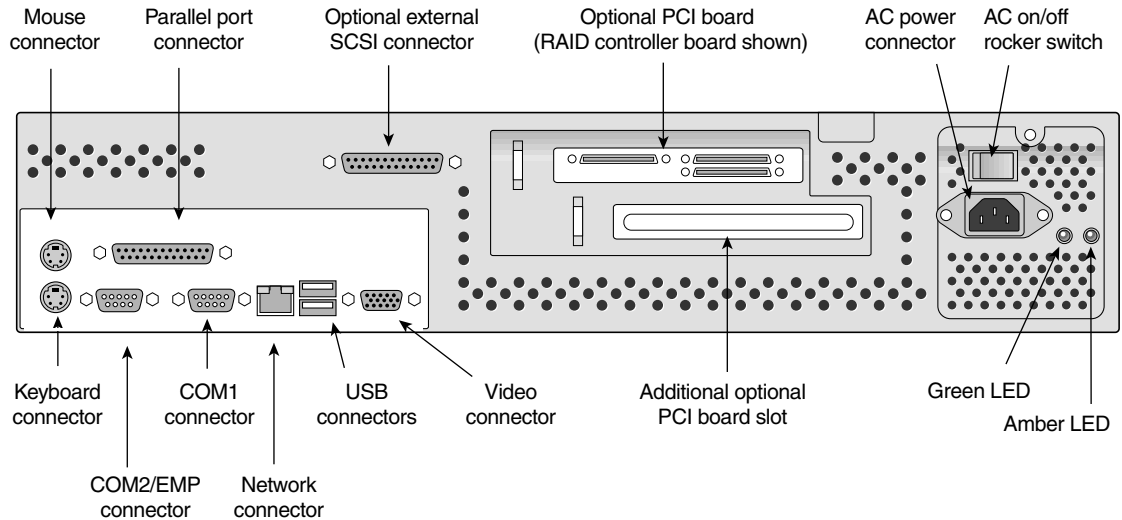

Figure 2 SGI 1200 Server Rear Connectors and Controls
6. Attach any of the following common peripherals that you intend to use at the connectors shown in Figure 2: